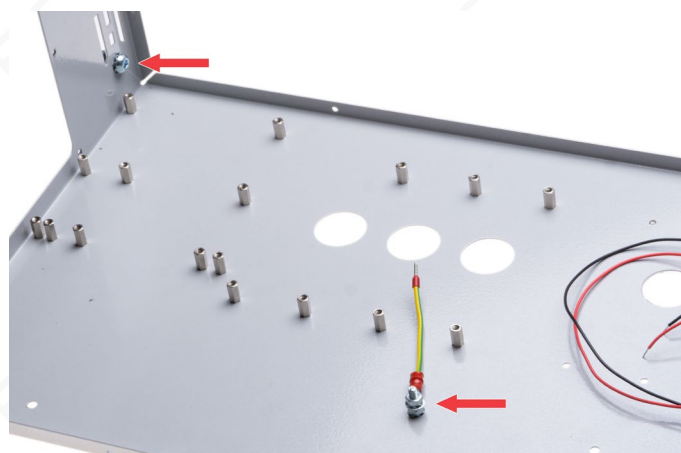

Fig. 6: Location of ground connections
- Remove the paint 2 mm inside and outside around the holes for the functional grounding screws (FG).
- Assemble the internal grounding screw connection from the screw 33, the washer 36, the toothed washers 38, the nuts 40 and the grounding cable 26 as shown in Figs. 6 and 7.